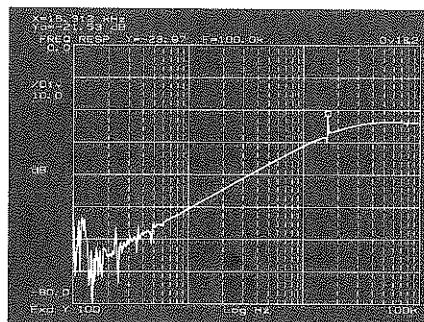

Figure 4-2
**8. Start** Press the yellow **START** key. The 100 Hz-to-100 kHz frequency response is displayed as the sweep progresses across the screen. The final trace will be similar to Figure 4-2 (again, the crystal resonator). Notice the line of annotation at the top of the trace: "Y" is the instantaneous level and "F" is the instantaneous sweep frequency.